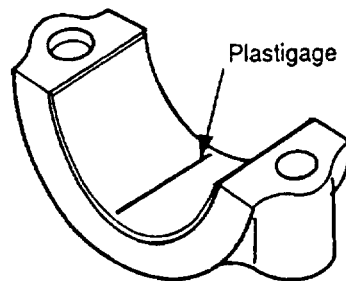
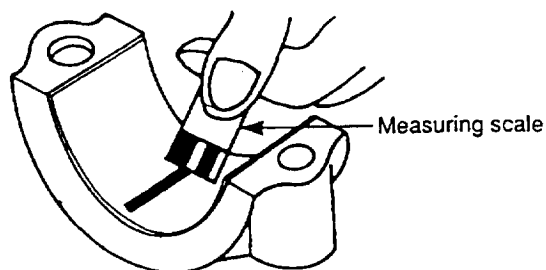

Figure 6-53 Plastigage
Figure 6-54 Measuring the crank pin metal clearance
- 2) Measuring clearance between crank pin and crank pin bearing metals (see Figure 6-53 and Figure 6-54). (Use plastigage)
- (b) Insert a plastigage into the cap on the large end in the crankshaft direction (see Figure 6-53).